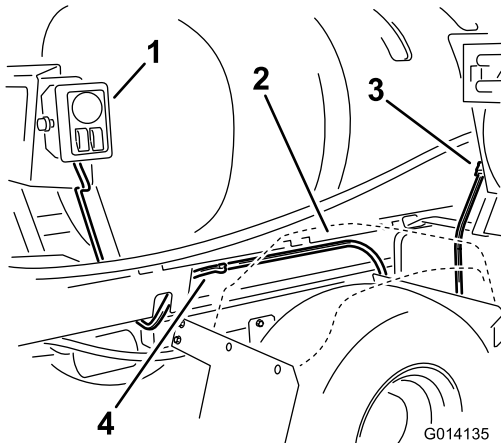

Figure 18
6. At the control box, route the remaining harness with the hose reel connector forward on the right side of the machine, between the tank skid and right rear fender (Figure 18). Use 2 push in connectors to secure the harness to the tank skid frame.